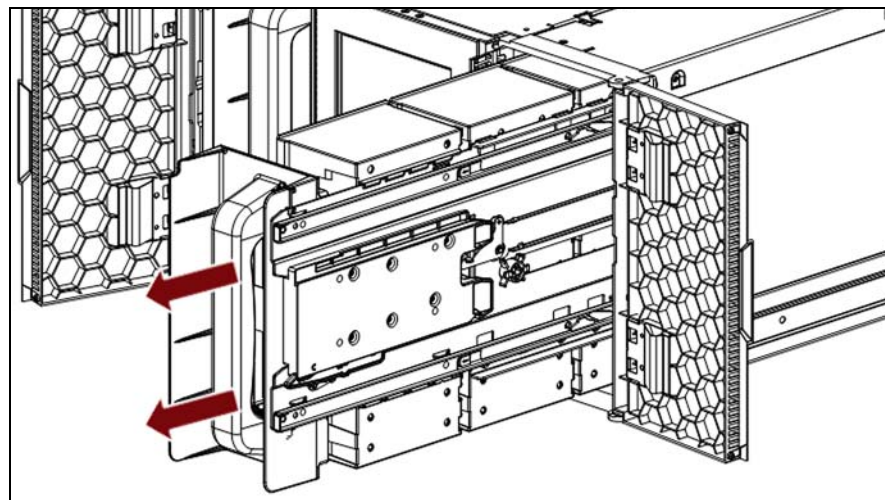

Figure 14 Remove the EE port from the library.
3. Gently extend the magazine away from the library. The magazine is not removable and does not extend past the 40 slots in the magazine (see Figure 14 on page 46).